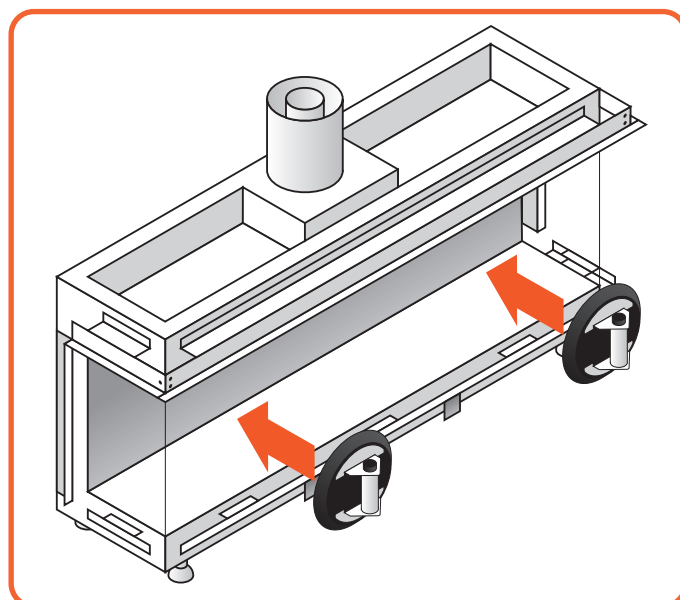

Figure 9.5 | Using the suction cup
- Put the section cup on the glass and make sure it is properly vacuumed, so it will not come off. (See Figure 9.5)